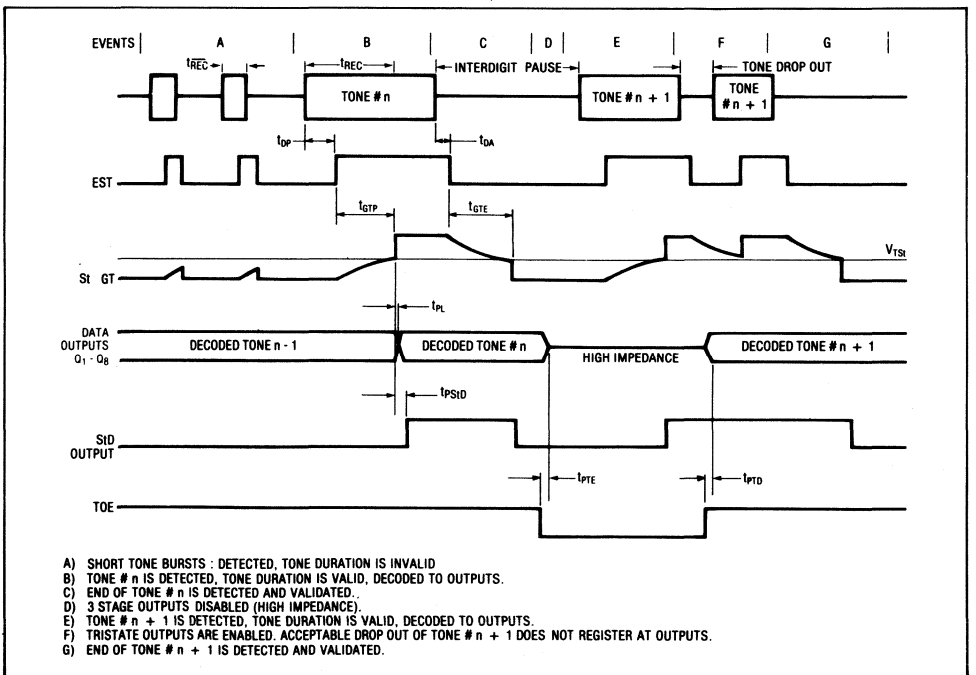

Fig.3 Timing diagram
Within the MV8862(3) FL and FH signals are operated on by a complex averaging algorithm. This is implemented using digital counting techniques (Control/Discriminators, Fig.2) to determine the frequencies of the incoming tones and verify that they correspond to standard DTMF frequencies. When both high group and low group signals have been simultaneously detected, a flag ESt (Logic High), is generated. ESt is generated (cancelled) rapidly on detecting the presence (absence) of a DTMF tone pair (see Fig.3) and is used to perform a final validity check.
is completed by the three state output GT which is normally connected to St and operates under the control of ESt and St. Its mode of operation is shown by the steering state table (Table 1c) and timing diagram (Fig.3).